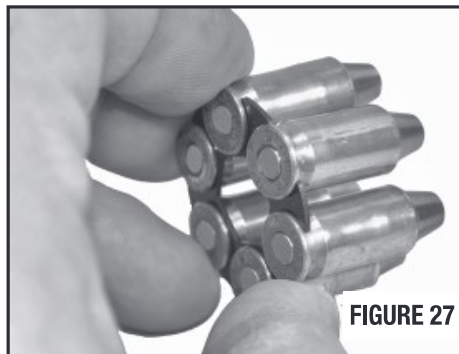

FIGURE 27
- FIGURE 27 shows a properly loaded full moon clip (6-round).